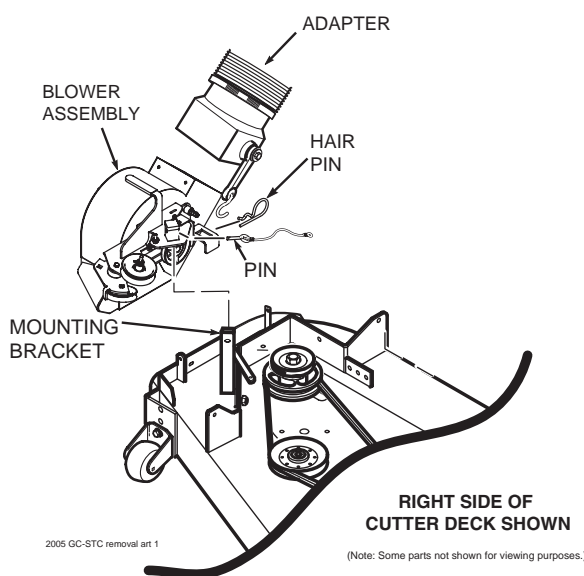

**FIGURE 3-6**
front of the machine as shown. See Figure 3-6.
16. Install one 7/16-14 x 1-3/4" hex head bolt into each of the four mounting holes in the weight support bar, and through the matching holes in the caster support weldment. Secure this assembly to the front of the machine using the 7/16- .5" x 1-1/4" x .083" flatwashers, and the 7/16-14 elastic stop nuts. Torque hardware to 59 ft. lbs. See Figure 3-6.